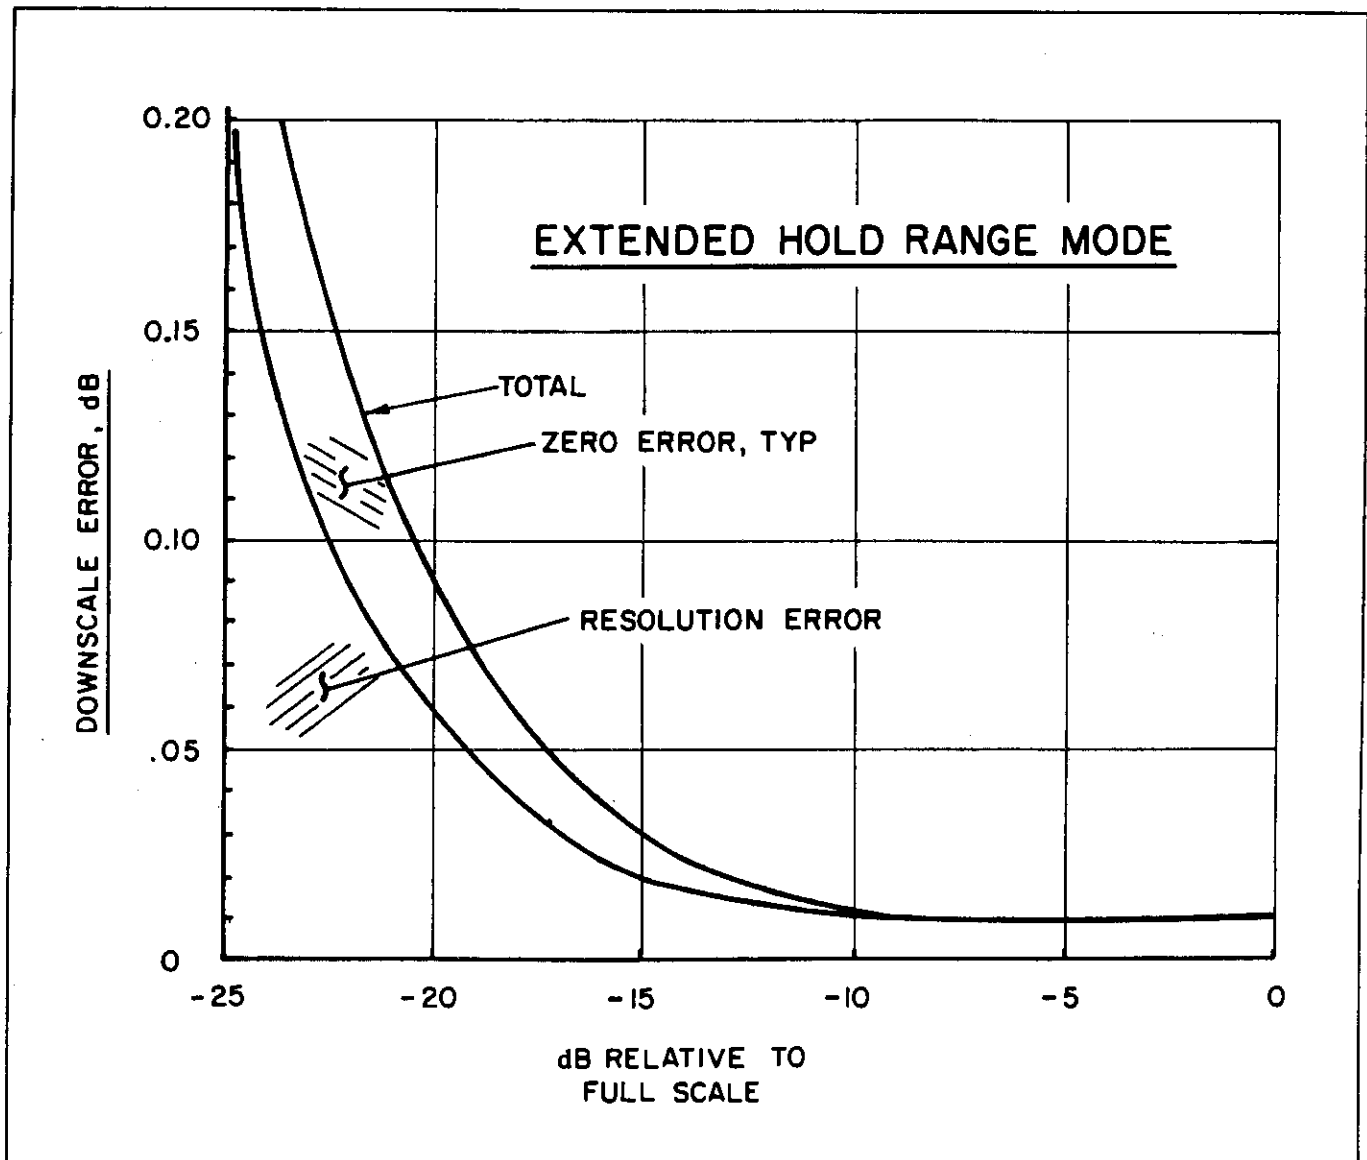

Figure 4-6. Extended Hold Range Mode
**Dynamic Range.** The Hold Range mode is useful when it is known that the signal will vary over a certain limited range. In this mode, the decimal point and units will remain fixed. The dynamic range of this mode is limited by the zero offset and the resolution, as shown in Figure 4-6. **Extended Hold Range Mode.** It can be seen that the useful dynamic range of each range is about 20 dB if the error is to be kept less than 0.1 dB.